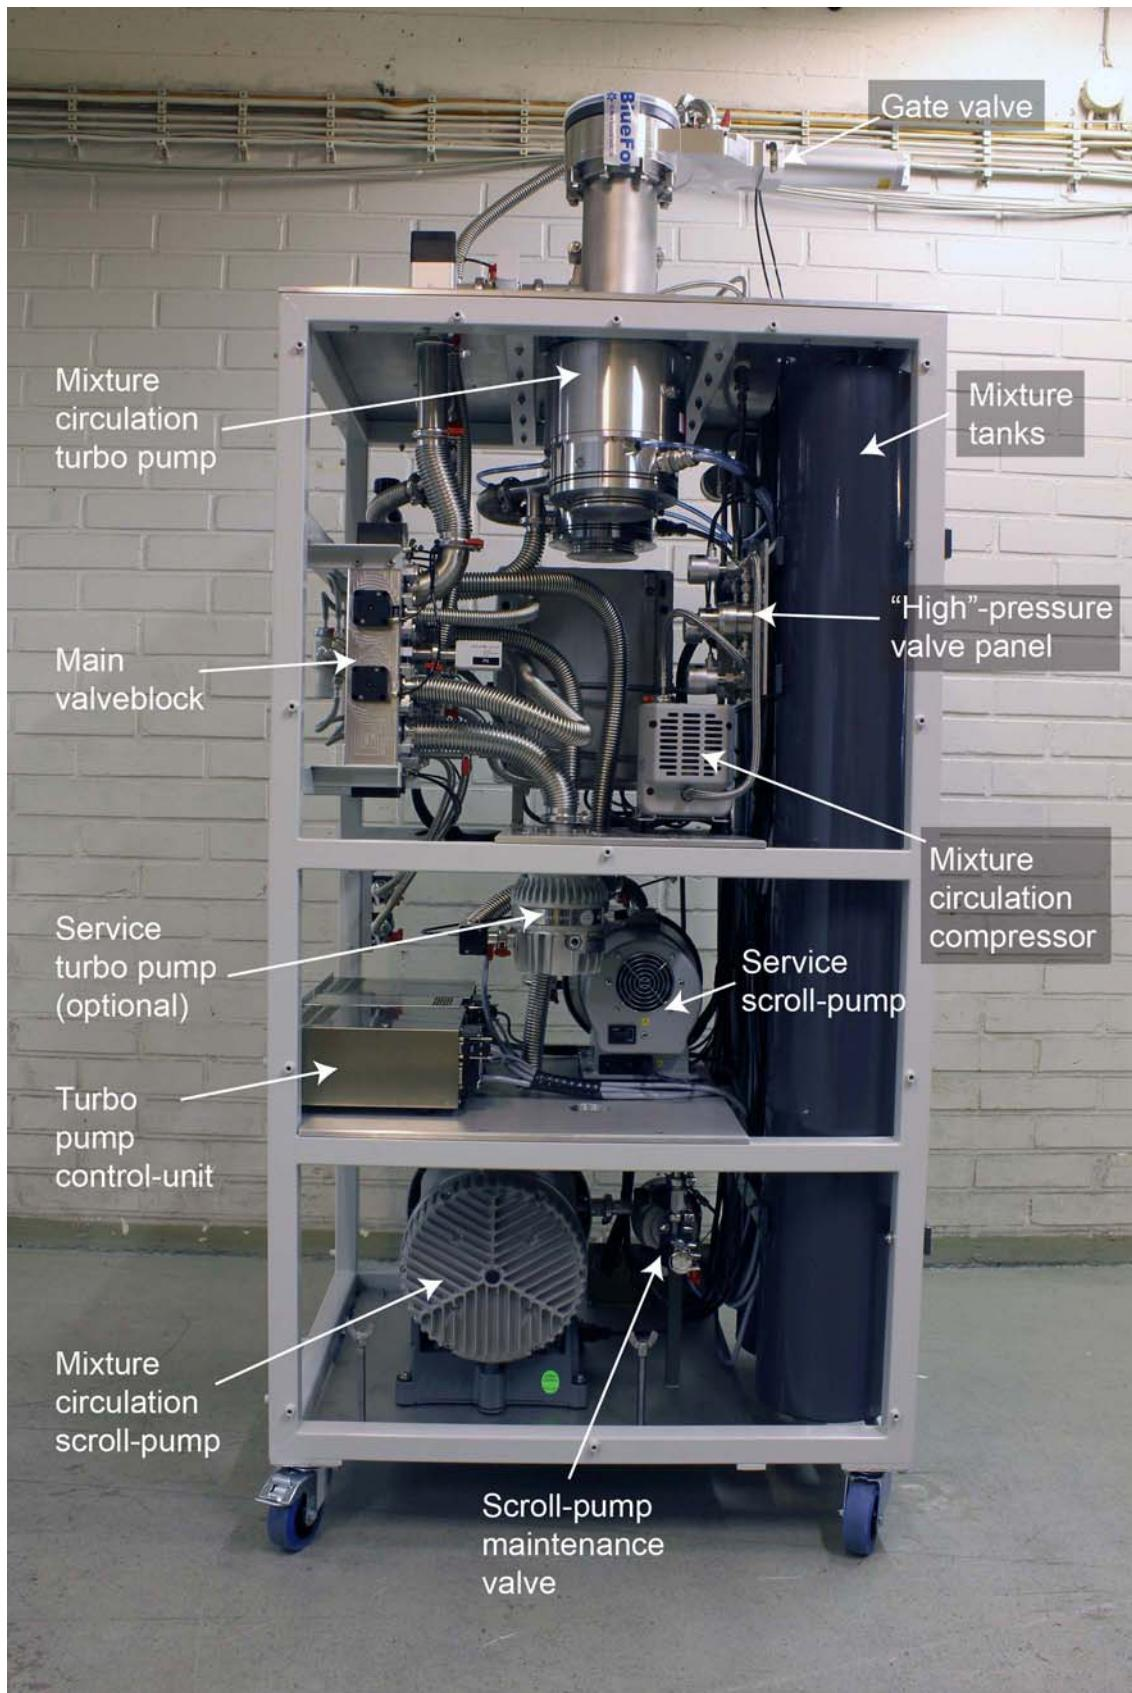
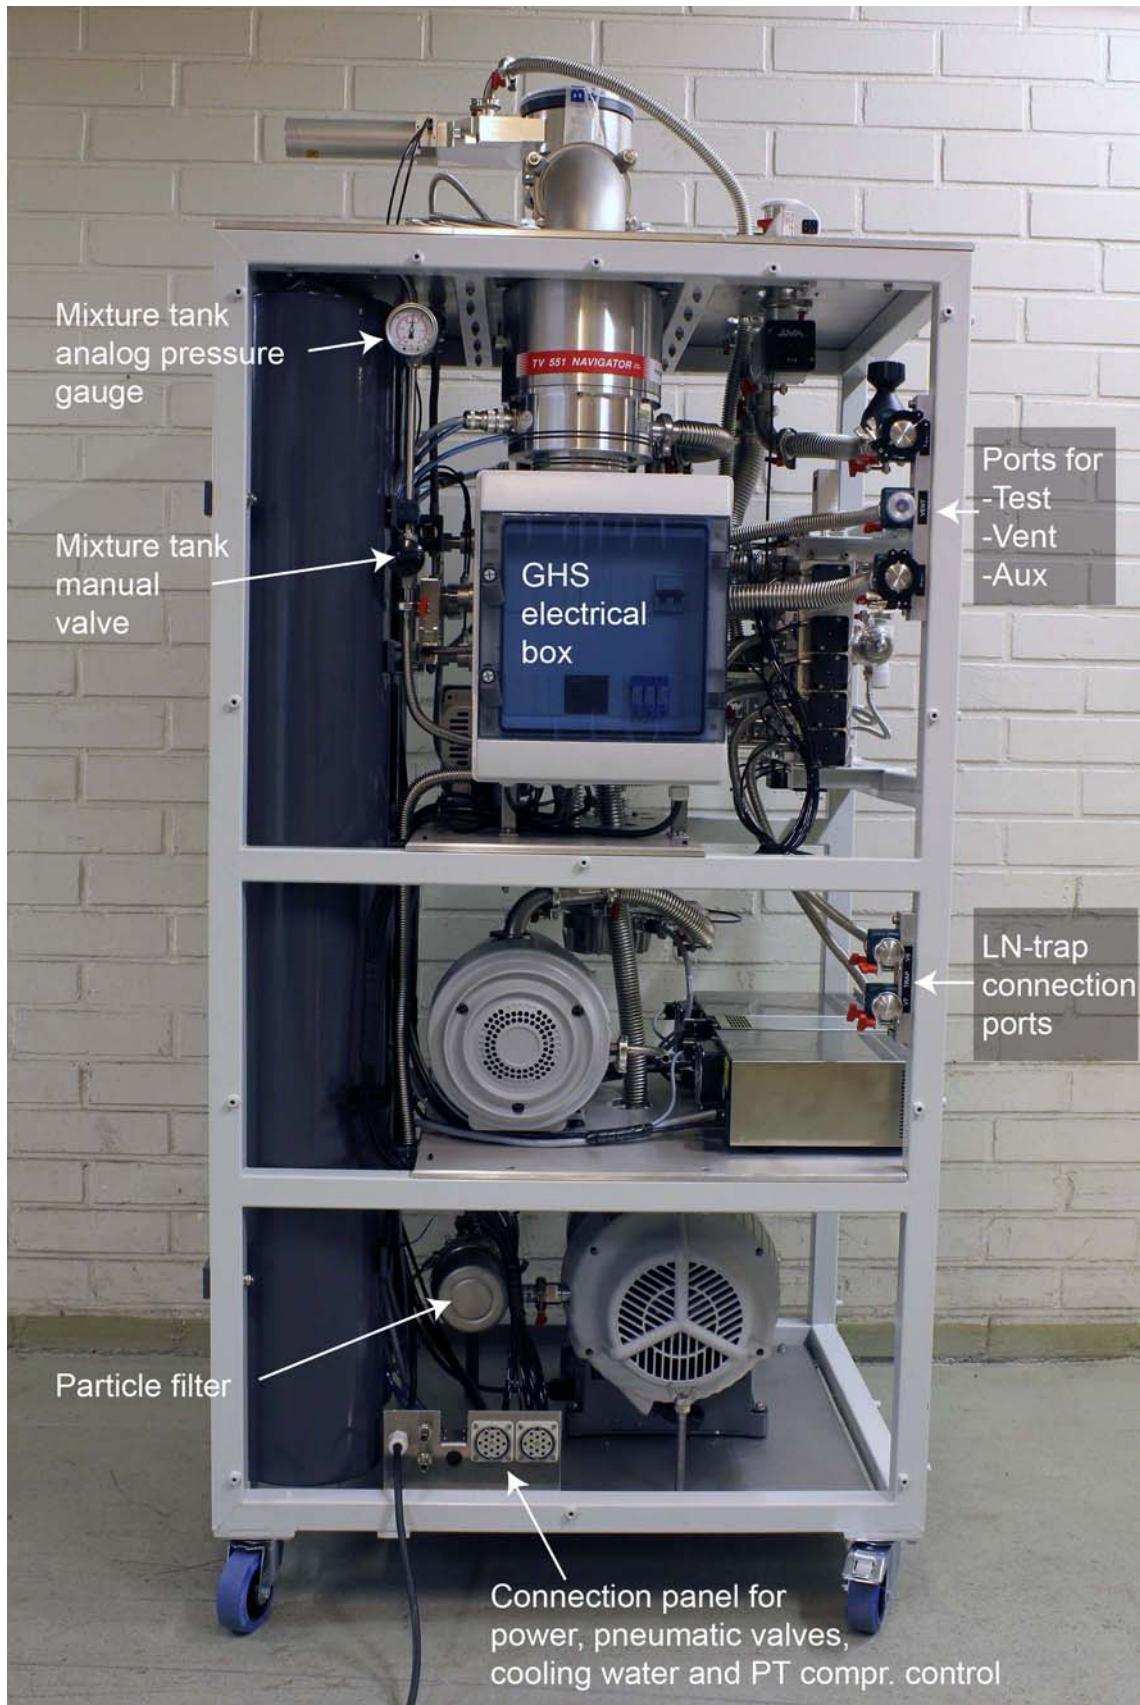

Figure 5. Gas handling system (GHS) main components.
Figure 6. GHS main components.
The GHS of the BF-LD400 system is contained in a single cabinet (see Figure 5, Figure 6). It contains all pumps, pumping lines, valves, pressure gauges, etc, which are necessary to operate the entire system. Because of acoustic noise this unit is preferably placed in a separate room from the cryostat, together with the Cryomech pulse tube compressor. The flow diagram of the GHS is shown in Attachment 7.1. As outlined in the diagram, it basically consists of two halves; the **main circulation circuit** and the **service manifold**. These two halves can be interconnected at different stages through valves V15, V17 and V18.
To save space and reduce the chance of leaks, the bulk part of the interconnecting tubes and vacuum valves are integrated in a single aluminum block, custom developed in cooperation with VAT Vacuum Valves AG (see Main valve block in Figure 5). All the valve actuators on this manifold are standard VAT parts which in the unlikely case of a failure can be easily and quickly replaced.
The commonly used vacuum access ports are located on the left-hand side of the GHS, these ports include (see Figure 6):
- All valves in the DR circulation are closed and that there is no pumping path to the mixture tank. **The safest option is to have the manual valve on the mixture tank closed** (see Figure 18 and Figure 6). **It is recommended to always keep the manual mixture tank valve closed when the system is not running.**